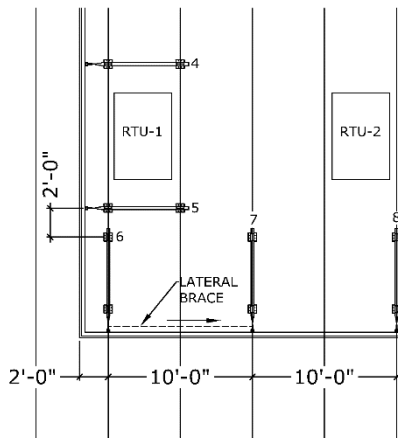

FIGURE 27
**OUTSIDE CORNER LAYOUT:** It is important to lay out a RoofScreen corner correctly so it can resist wind loads in both directions. Referring to Figure 27, notice frame 6 is on the structural member closest to the corner. On the opposite side, frame 5 should be placed as close to the corner as possible but still maintain at least 2' space between Base Supports to allow for proper roofing. To help resist wind loading, each outside corner also requires a Lateral Brace. The brace connects from the high end of the vertical tube on the frame closest to the corner, and connects to the low end of the vertical tube on the adjacent frame. See Figures 27 and 28.